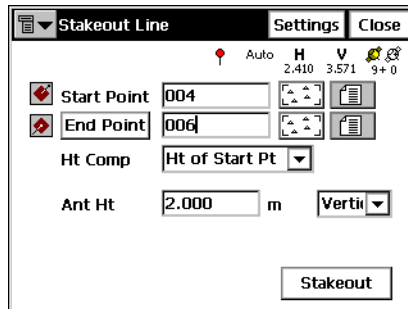

Figure 7-15. Stakeout Line
2. In the *Stakeout Line* screen (Figure 7-15), specify the reference line by choosing the start point and either the end point or the azimuth. Currently, the stakeout points have the same height as the starting point. Also, specify the antenna parameters (GPS+ mode), or the height of the rod (TS mode). Tap the **Stakeout** button.